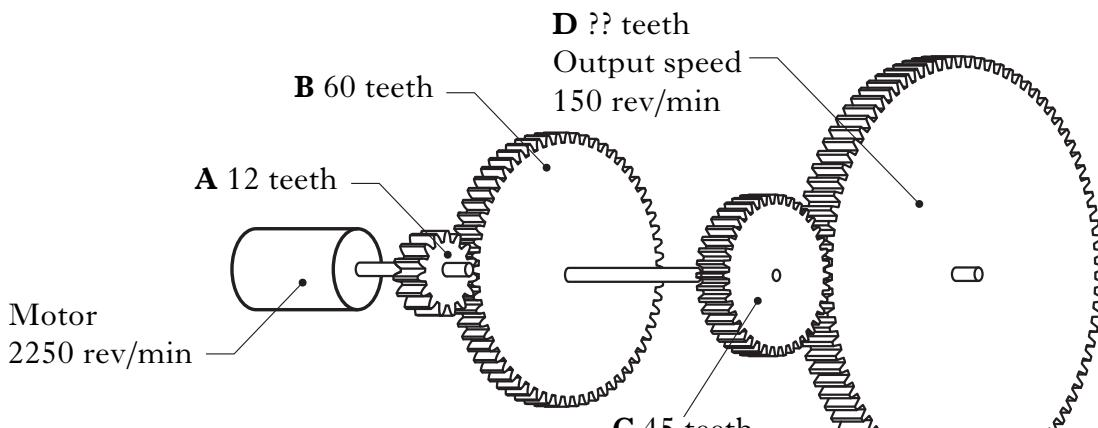

Figure Q8
8. A gear system for operating a theatre curtain is shown in Figure Q8.
- (a) State the name of the type of gear system shown in Figure Q8.